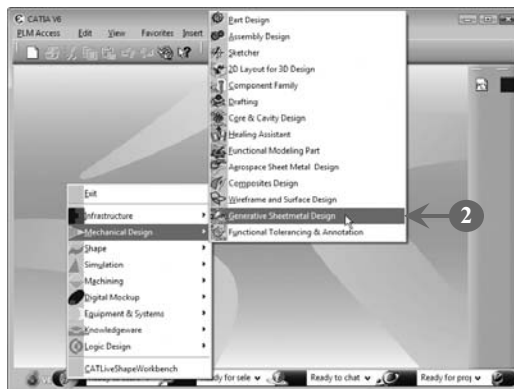

FIGURE 6.1
2. *Select* **Start > Mechanical Design > Generative Sheet Metal Design** on the CATIA V6 user interface to start the Generative Sheet Metal Design workbench, as shown in **Figure 6.1**: